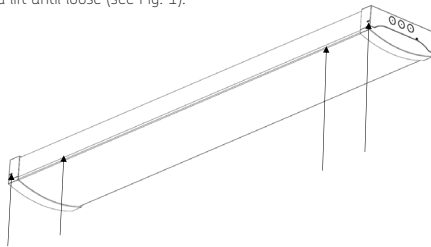

Fig. 1
- With the aid of a flat-head screwdriver, carefully unlock the locking mechanism on the end caps and lift slightly. Place the screwdriver between the metal housing and diffuser near the ends and lift until loose (see Fig. 1).